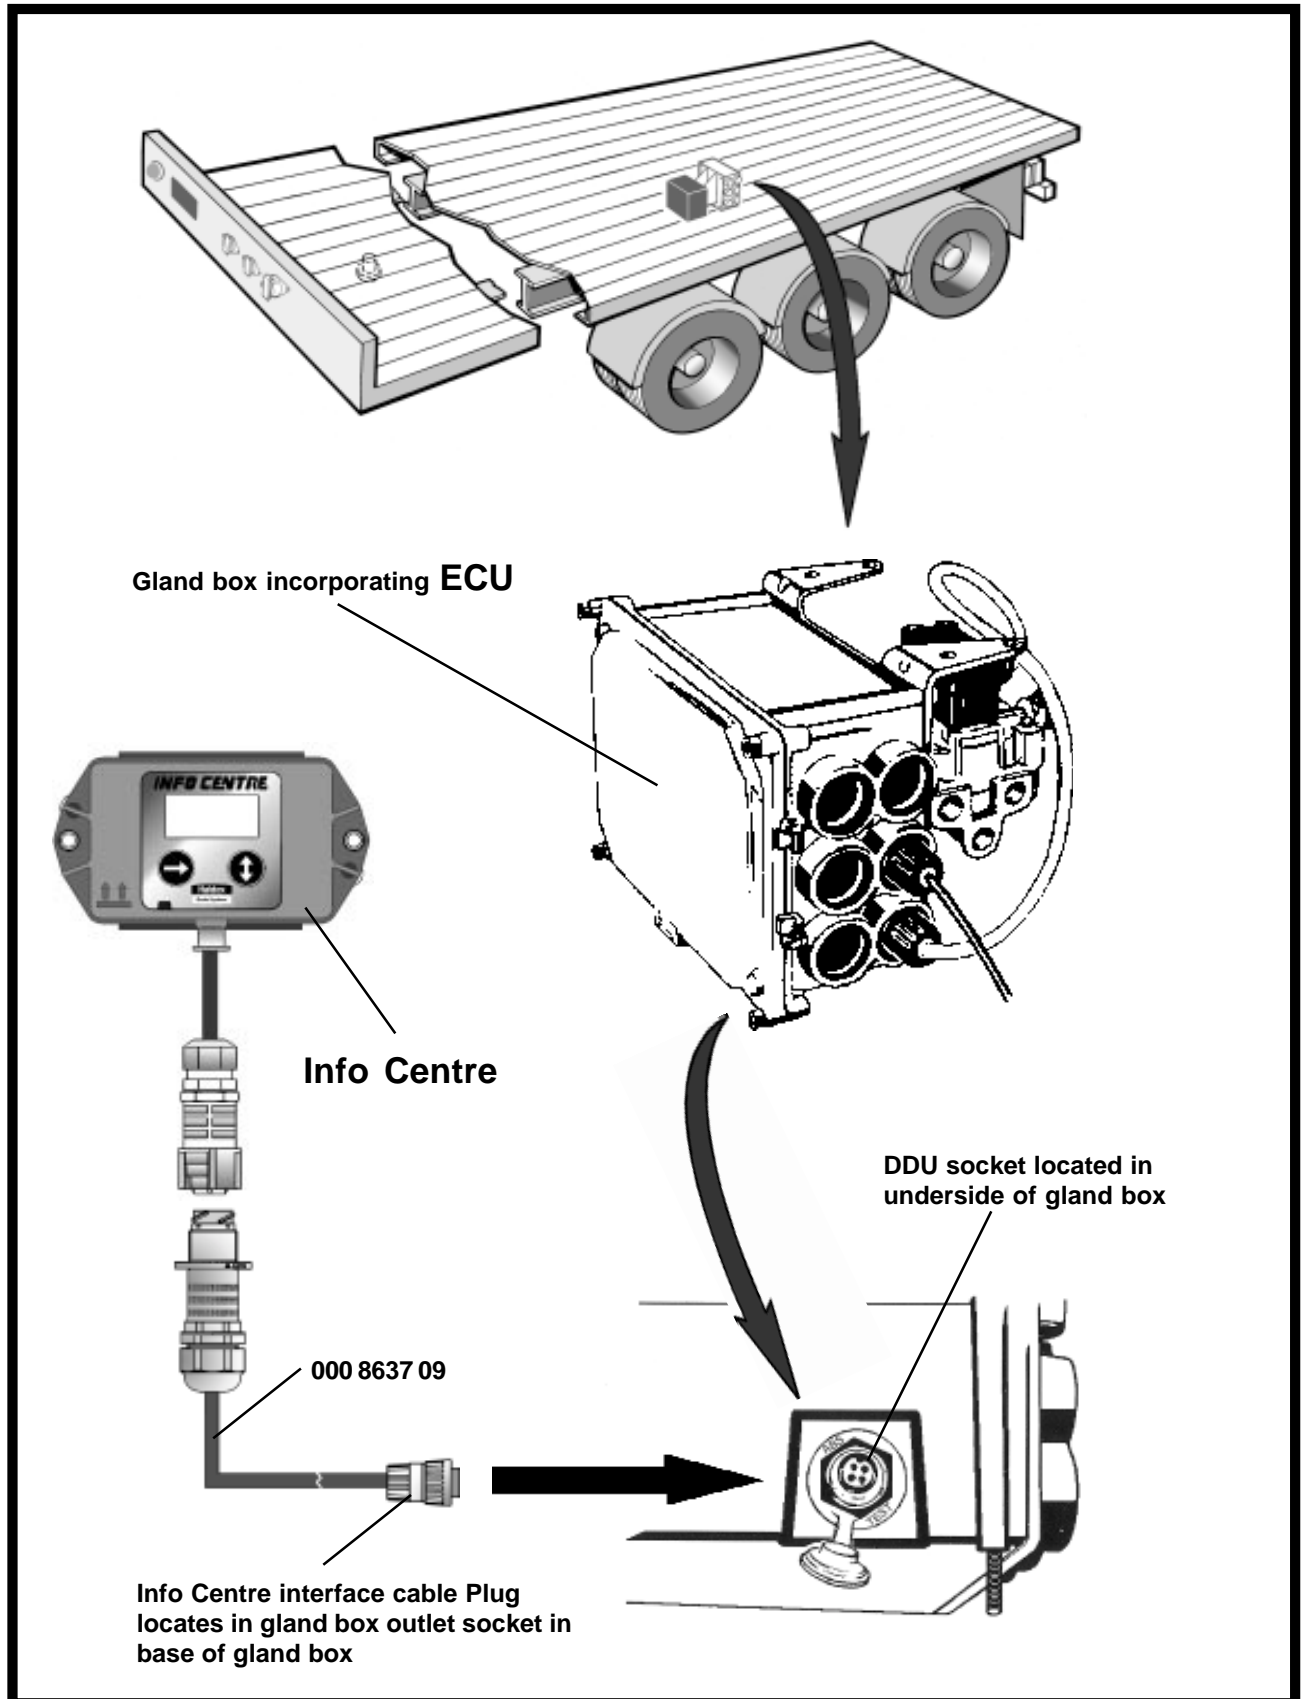

Fig. 8 MODAL Diagnostic outlet socket location
2. Connect the Info Centre cable to the trailer diagnostic output connector . See MODAL - Fig 8